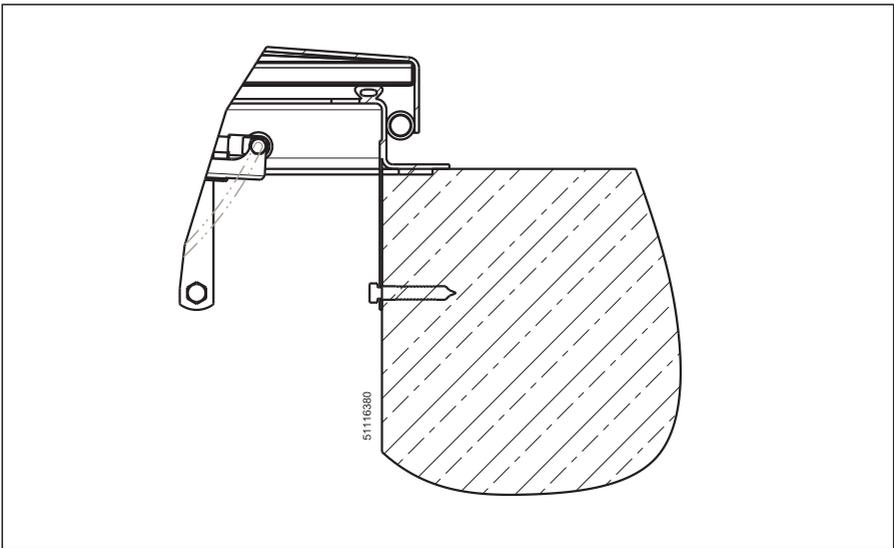

Fig.2 : Frame for doweling (standard for SD3 RC3, SD4 RC3)
5. Turn the inserted operating key clockwise by 90° (fig. 2).
6. Pull the operating key vertically upwards until the locking mechanism is unlocked (fig. 2).